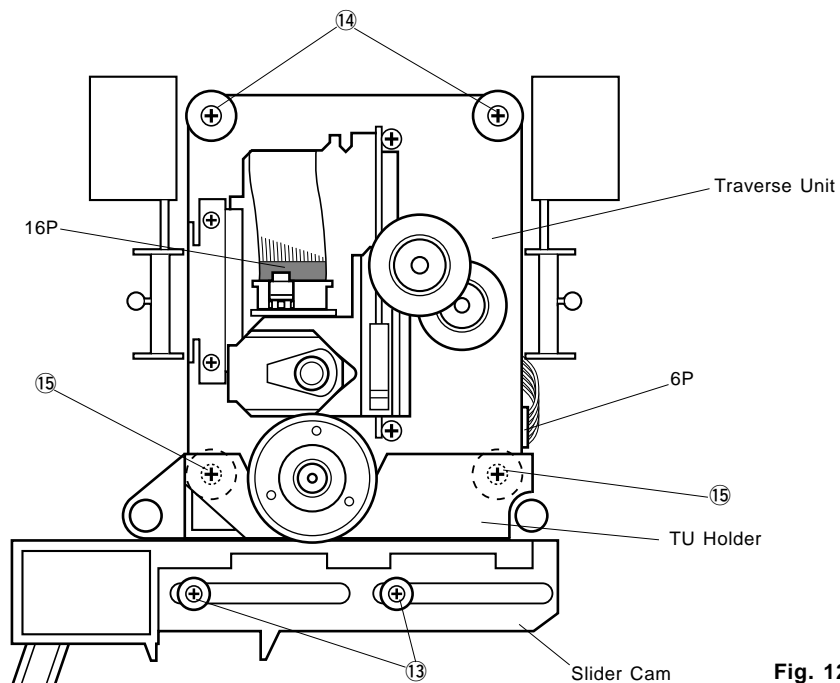

Fig. 12
- f. Remove 4 screws (⑬ and ⑭) in Fig. 12.
- h. Take out the Traverse Unit with the Slider Cam and the TU Holder in Fig. 12.
- i. Remove 2 screws (⑮) and then remove the TU Holder in Fig. 12.